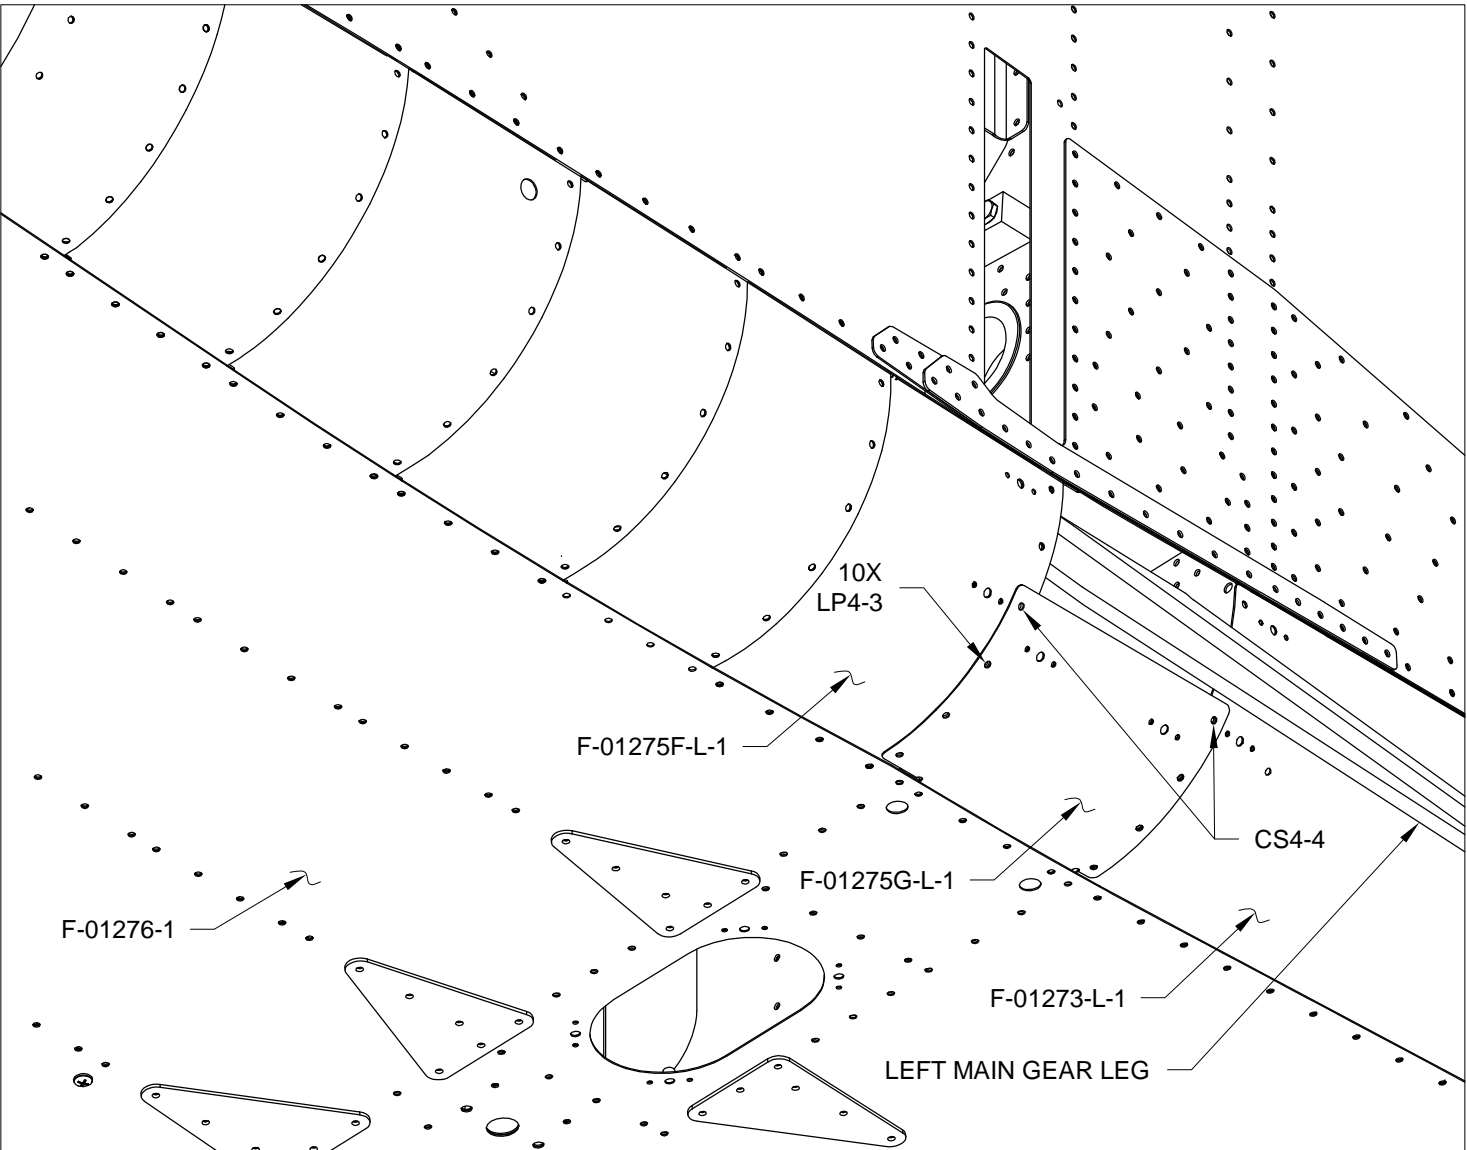

FIGURE 3: INSTALLING THE F-01275G-L-1 & -R-1 COVER PLATES
Step 5: Rivet the F-01275G-L-1 to the F-01273-L-1, F-01275F-L-1, and F-01276-1 using the rivets called out in Figure 3. The bent flange is positioned on top of the F-01276-1.